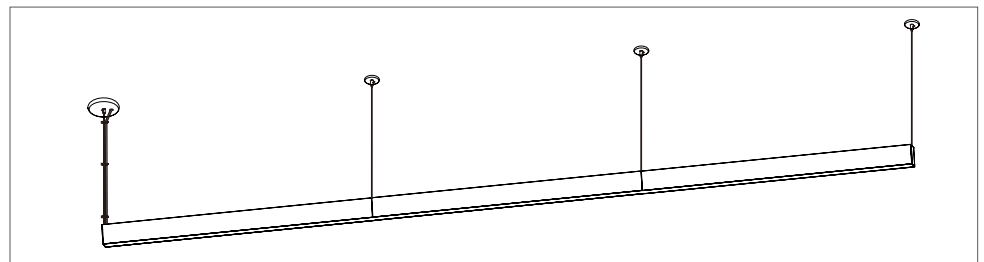

FIGURE 4-7
5) Installation is complete. (Figure 4-7)